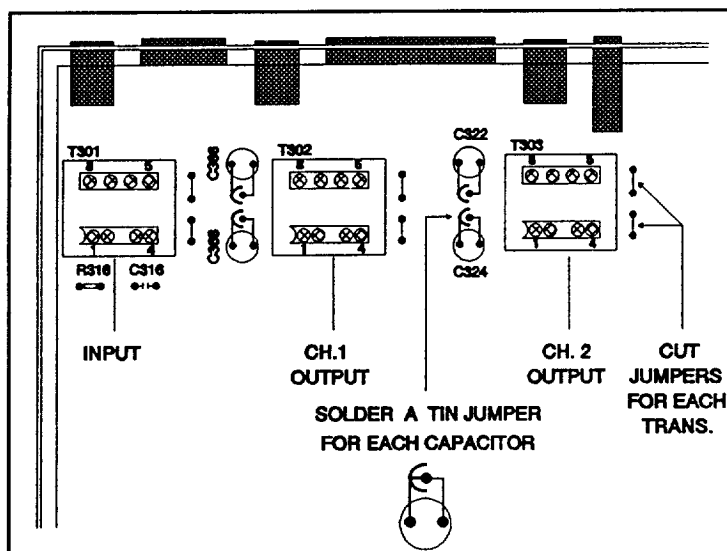

Figure 8 Transformer and Jumper Locations
3. Locate the transformer mounting areas near rear of the unit on top of the P.C.B. (see Figure 8 for exact locations).
4. Cut two jumpers for each transformer installed (see Figure 8 for exact locations).
5. Insert resistor R316 (6.8 k Ω , Part # 47-01-102098) and capacitor C316 (820 pF, Part # 15-06-037792) at its reserved locations (see Figure 8 for exact locations).
6. The output electrolytic capacitors C366, C368, C322 and C324 are to be shorted by a tin link on the solder pad provided on the P.C.B. (see Figure 8 for exact locations).